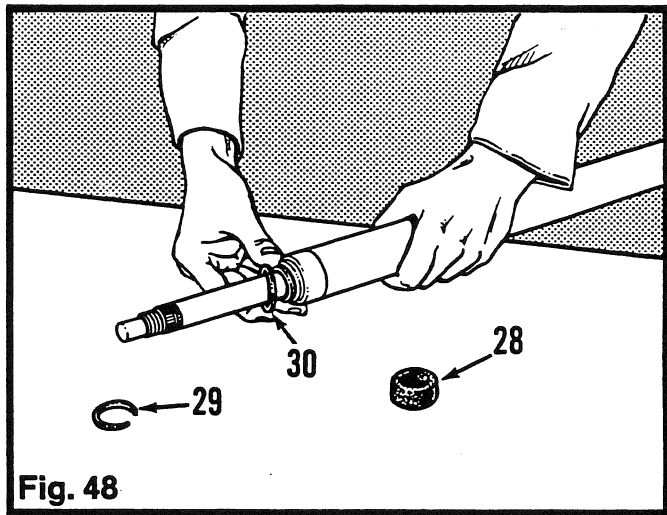

Fig. 48
1. Remove the dust cap (28). Release the retaining ring (29) and remove the thrust washer (30). (Fig. 48)